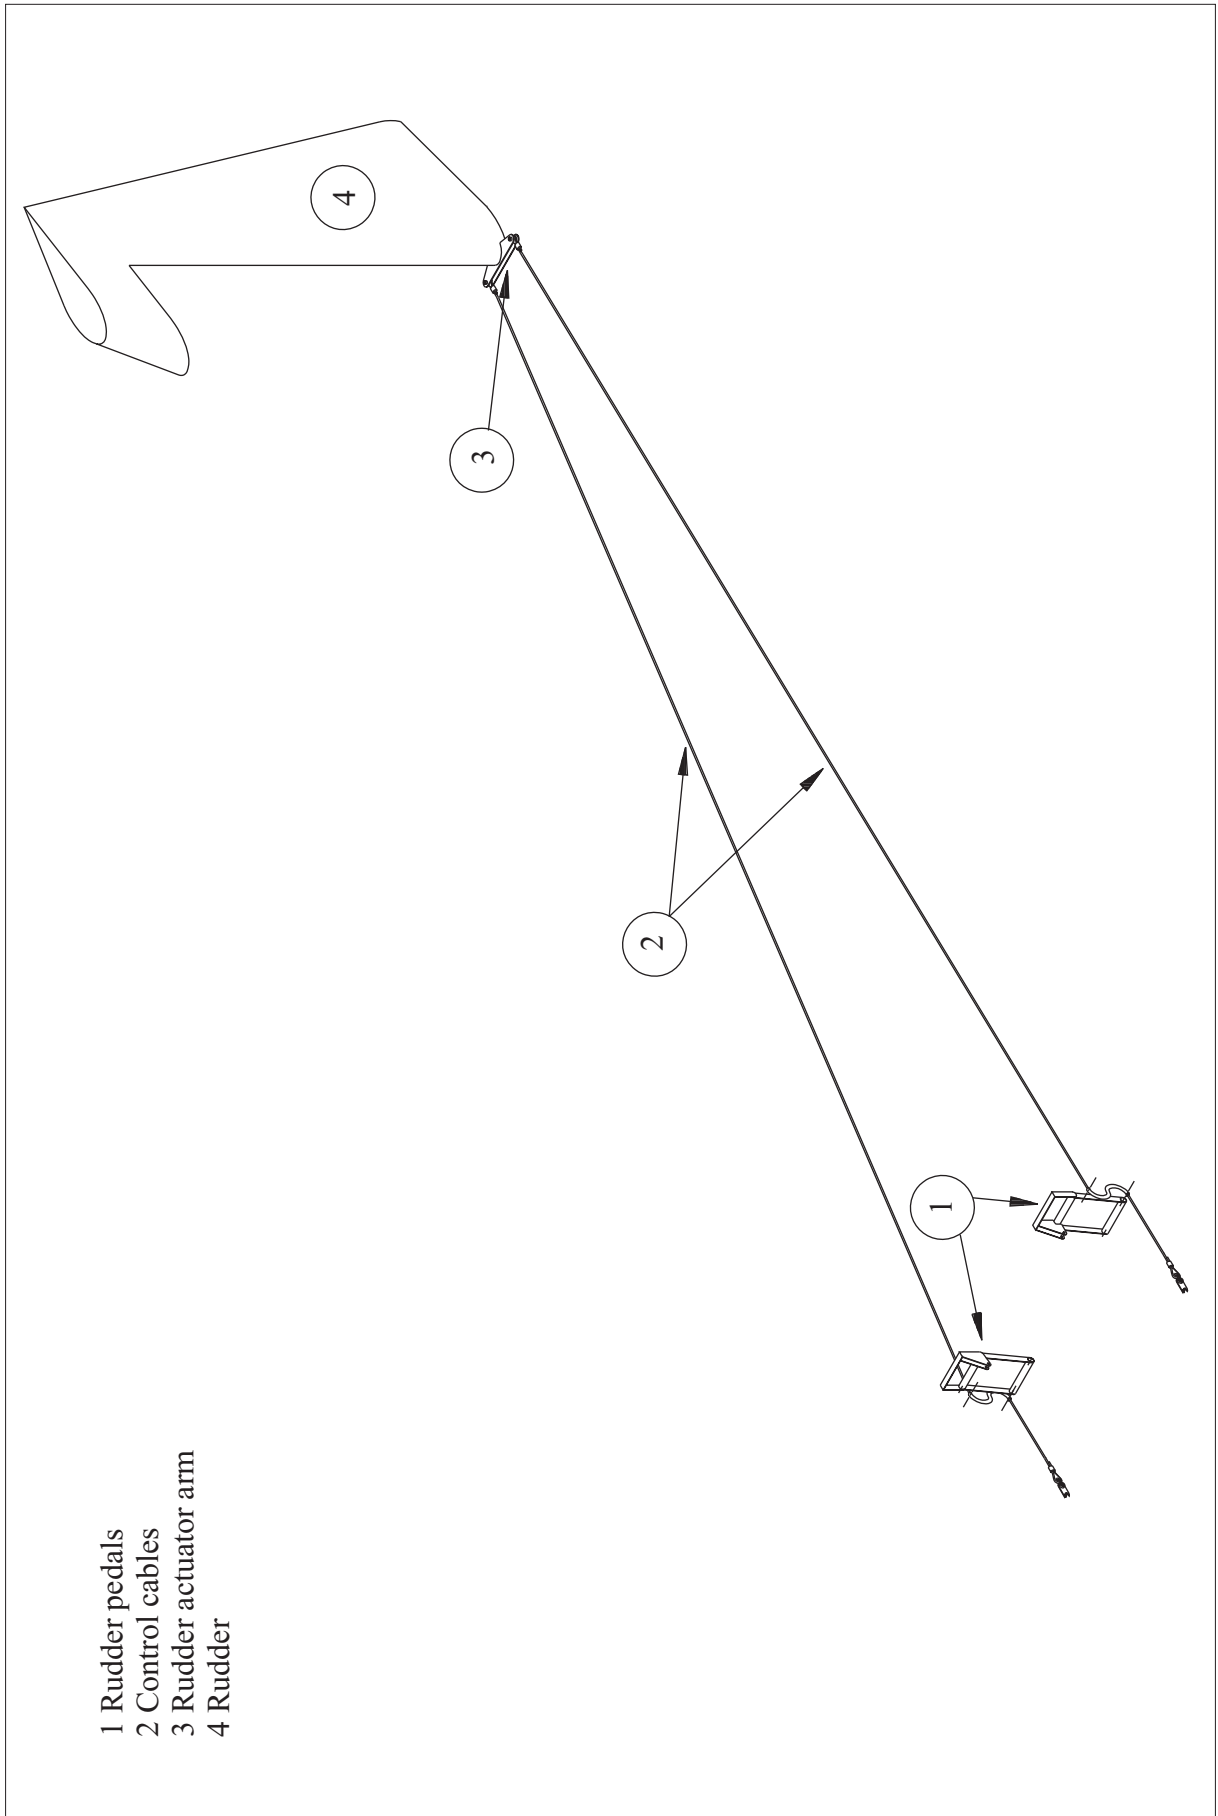

Figure 14
(Refer to Figure 14) The rudder pedals (1) are connected via a cable system (2) to the bottom hinge bellcrank (3). The cables are guided by fairleads. Pedal retracting springs keep the cables under tension when they are not operated. Adjustment is made by an electrical actuator. The rudder (4) is mounted at three points in spherical bearings pressed into a aluminium hinge resp. into aluminium hinge arms. For lightning protection reason each hinge (arm) is grounded to the corresponding attachment bracket at the rudder by bonding leads. A travel stop plate is located at the bottom hinge bracket. A second safety stop is located at the rudder pedal bearing having the only purpose of protecting the lower brake system fitting in case of rudder cable failure.